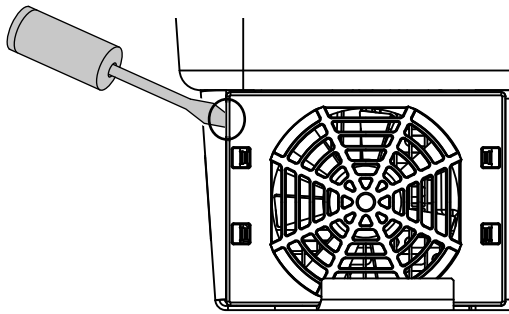

Fig. 63: Loosen fan grill
2. Dismantle the fan. To do this, place a screwdriver at the edge of the fan grill and apply a little pressure to the fan grill.  **Fig. 63**